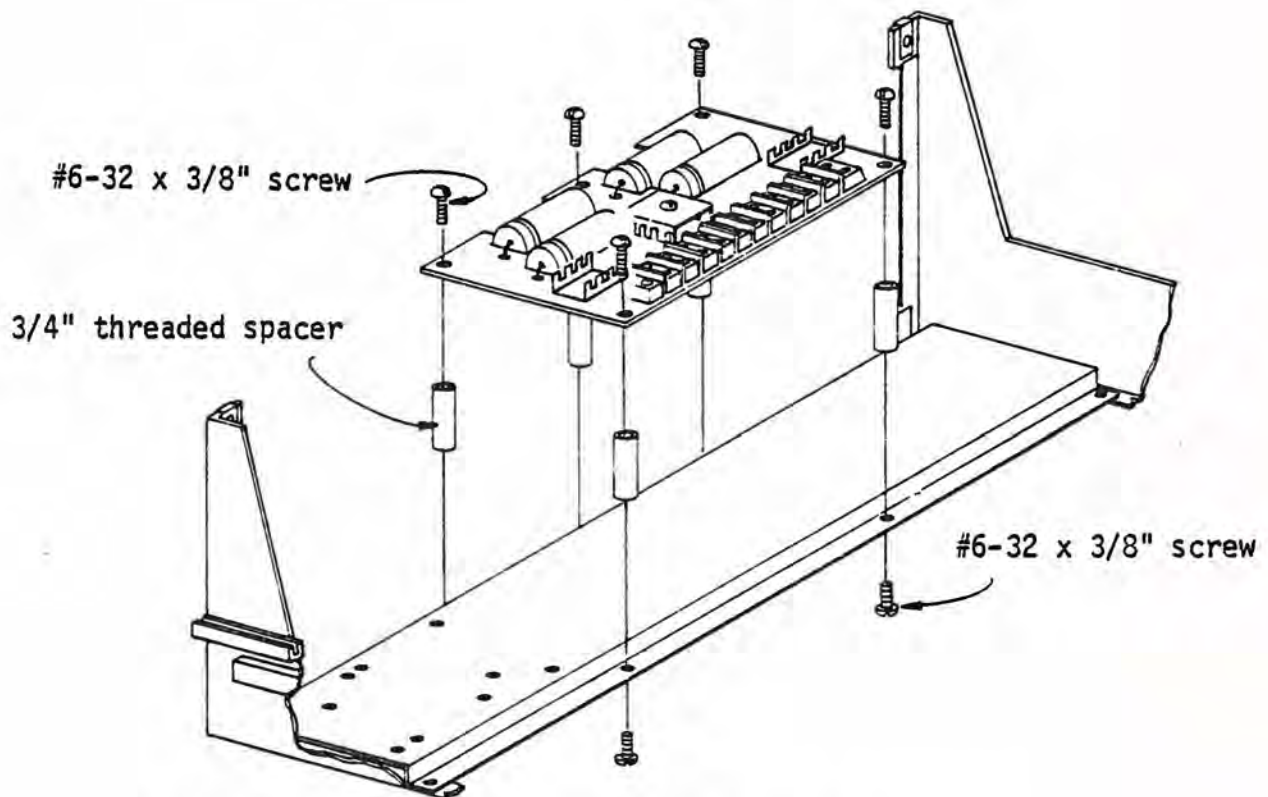

Figure 5-48 Power Supply Board Mounting Orientation
OCCASIONALLY THE CROSS MEMBER IS MOUNTED INCORRECTLY ON THE MAINFRAME. CHECK TO BE SURE THE SCREW HOLE PATTERN CORRESPONDS TO THE DIAGRAM (FIGURE 5-48).
3. Set the Power Supply Board on the cross-member. The large capacitors should be positioned toward the rear of the mainframe, Figure 5-48.